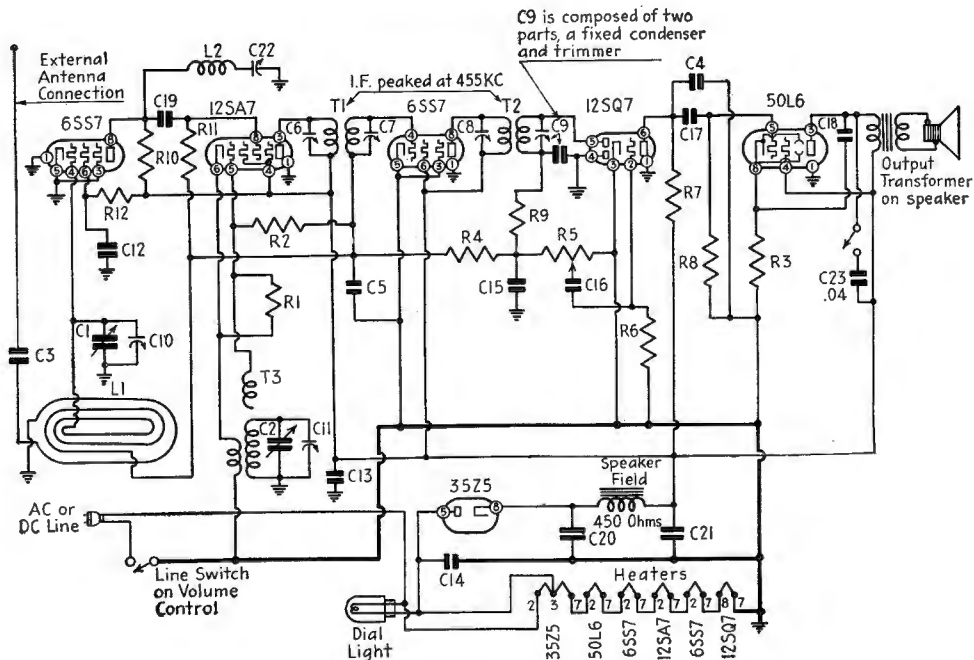
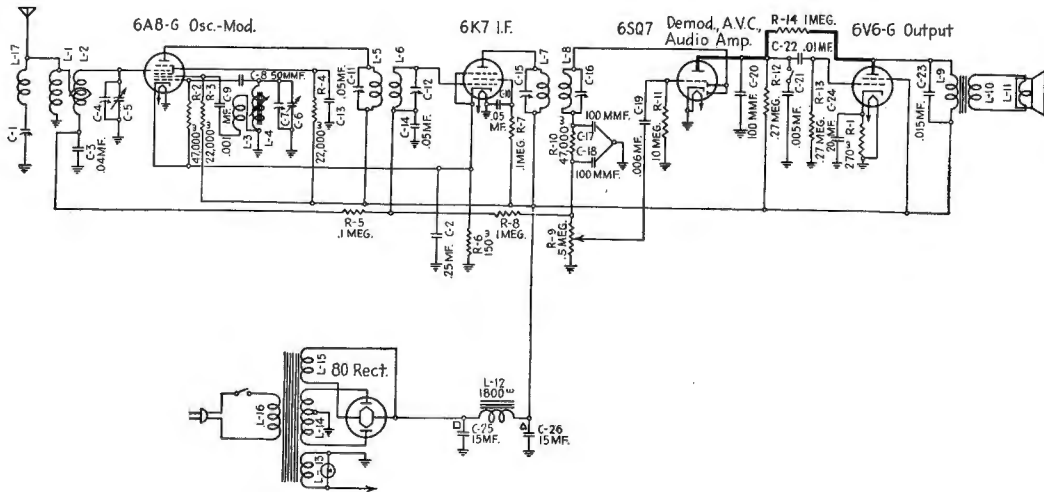

FIG. 10-13.—Schematic diagram for Emerson Model GB receiver.
FIG. 10-14.—Schematic circuit of the Stromberg-Carlson No. 400 receiver.
A modern trend in the use of tone controls is to replace the variable resistor $R-112$ with a switch, thereby making a 2-point tone control. An example of this is shown in Fig. 10-13. Note the tone condenser $C-23$ and its associated switch in the plate circuit of the 50L6 tube. When the switch is open, there is no shunting action, and this is the treble position. In the bass position, where the switch is closed, $C-23$, which is 0.04 mfd, shunts some of the high audio frequencies out of the speaker.
Figure 10-14 shows a similar 2-point tone control. In this case, the shunting action of $C-21$ and its associated switch is in the input circuit of the second AF tube.
In Fig. 10-13, the cathode by-pass condenser has been omitted to provide degeneration through self-bias resistor $R-3$, which is common to both the input and output circuits of the 50L6 tube. Since the input and output circuits of a tube are 180 deg out of phase, degeneration is automatic. Condenser $C-18$, the high-frequency by-pass condenser, is returned directly to cathode rather than to ground, so that the degenerative effect is greater at the higher frequencies (especially the high harmonic frequencies), thereby making for more uniform response for the stage. In Fig. 10-14 the inverse feedback
As a general rule, inverse feedback circuits do not cause many complications to the serviceman. All tests and service notes pertaining to the standard amplifier circuit may be applied. Resistor *R-14* in the feedback circuit, represented in Fig. 10-14, will rarely cause any service difficulty.
5. The receiver of Fig. 10-14 has low volume and sounds tinny. A voltage check shows normal voltage readings. Substitution of the bench test speaker causes no improvement. What should the next check be?
6. The receiver of Fig. 10-14 motorboats. Bridging the output filter condenser C-26 with a 20-mfd/450-volt condenser causes no improvement. What should the next check be?
7. The receiver of Fig. 10-13 begins to distort after it has been playing for 15 min. What would you suspect is wrong? How would you confirm your suspicion?
9. The receiver of Fig. 10-13 is brought in as dead and gives the following voltage readings for the second AF stage: